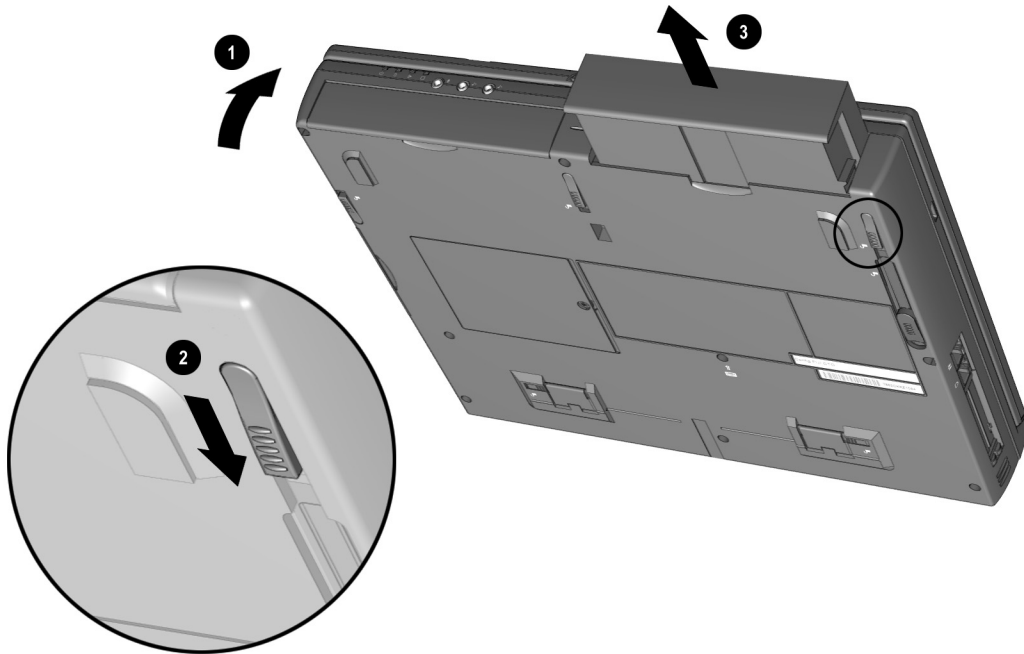

Figure 5-9. Removing a Dual-MultiBay Battery Pack
2. Tilt the computer at an angle ❶ so the bottom of the computer is accessible (Figure 5-9).
3. Slide the front MultiBay release latch ❷ toward the back of the computer.
4. Grasp the Dual-MultiBay battery pack using the recess ❸ beneath the battery bay and remove the Dual-MultiBay battery pack.